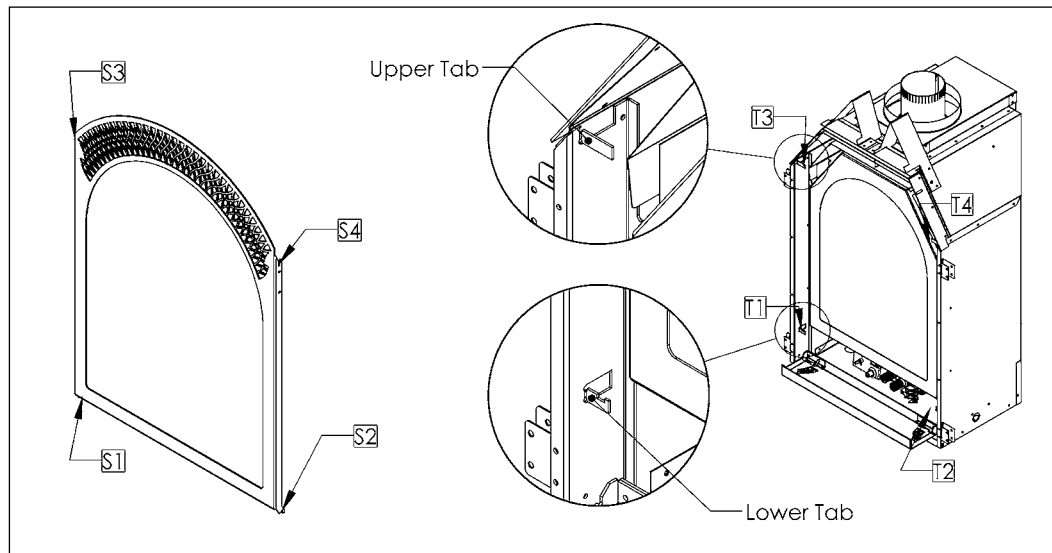

Figure 16 - Arch Door mounting tab locations.
1. Ensure that the Lower Access Panel is in the OPEN position. Make note of the four [4] Mounting Tabs located on the unit [T1-T4], and the four [4] Mounting Slots on the Arch Door [S1-S4] (see Figure 16).